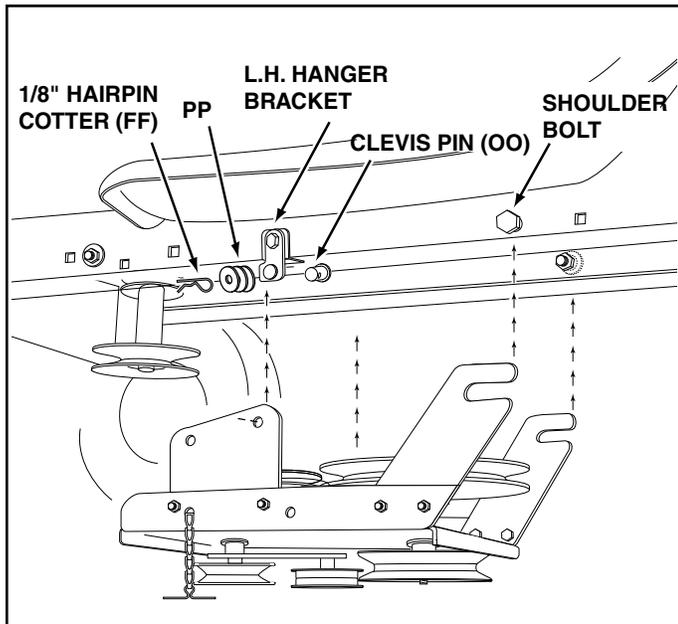

FIGURE 18 VIEWED FROM LEFT SIDE
STEP 19: (SEE FIGURE 18)
- Hook the rear of the clutch/idler assembly onto the two shoulder bolts assembled to the outside of the tractor frame. Lift the front of the assembly and attach it to the R.H. and L.H. hanger brackets using two clevis pins (OO), six washers (PP), and two 1/8" hairpin cotters (FF).